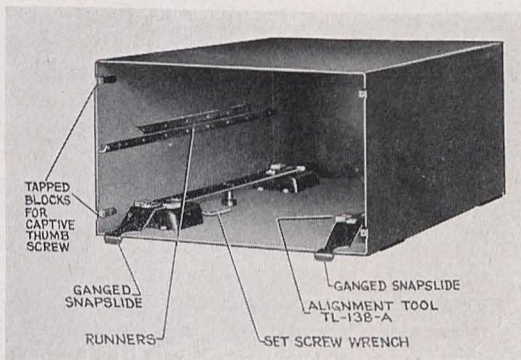

Figure 3—Radio Compass Unit BC-310-A, Cabinet
a. **Cabinet.**—The cabinet is of welded aluminum construction with black wrinkle finish. The panel (front) end allows the removal of the radio compass unit chassis. Runners are provided on each side of the cabinet for guiding and holding the chassis in place. Tapped studs are provided near each corner of the panel end, for four captive thumbscrews on the chassis panel, which secure the chassis in the cabinet. Mounted in the bottom of the cabinet are ganged snapslides for securing the cabinet to Mounting FT-145-A. The front and back snapslides on each side of the cabinet are ganged and a spring release is provided so that the snapslides can not be closed unless the cabinet is properly seated on all four studs of Mounting FT-145-A. An Alignment Tool TL-138-A (for aligning all r-f and i-f circuits) and set screw wrench (for removing control knobs) are mounted on clips on the inside bottom of the cabinet back of the front mounting cups. A view of the cabinet is shown in Figure 3.